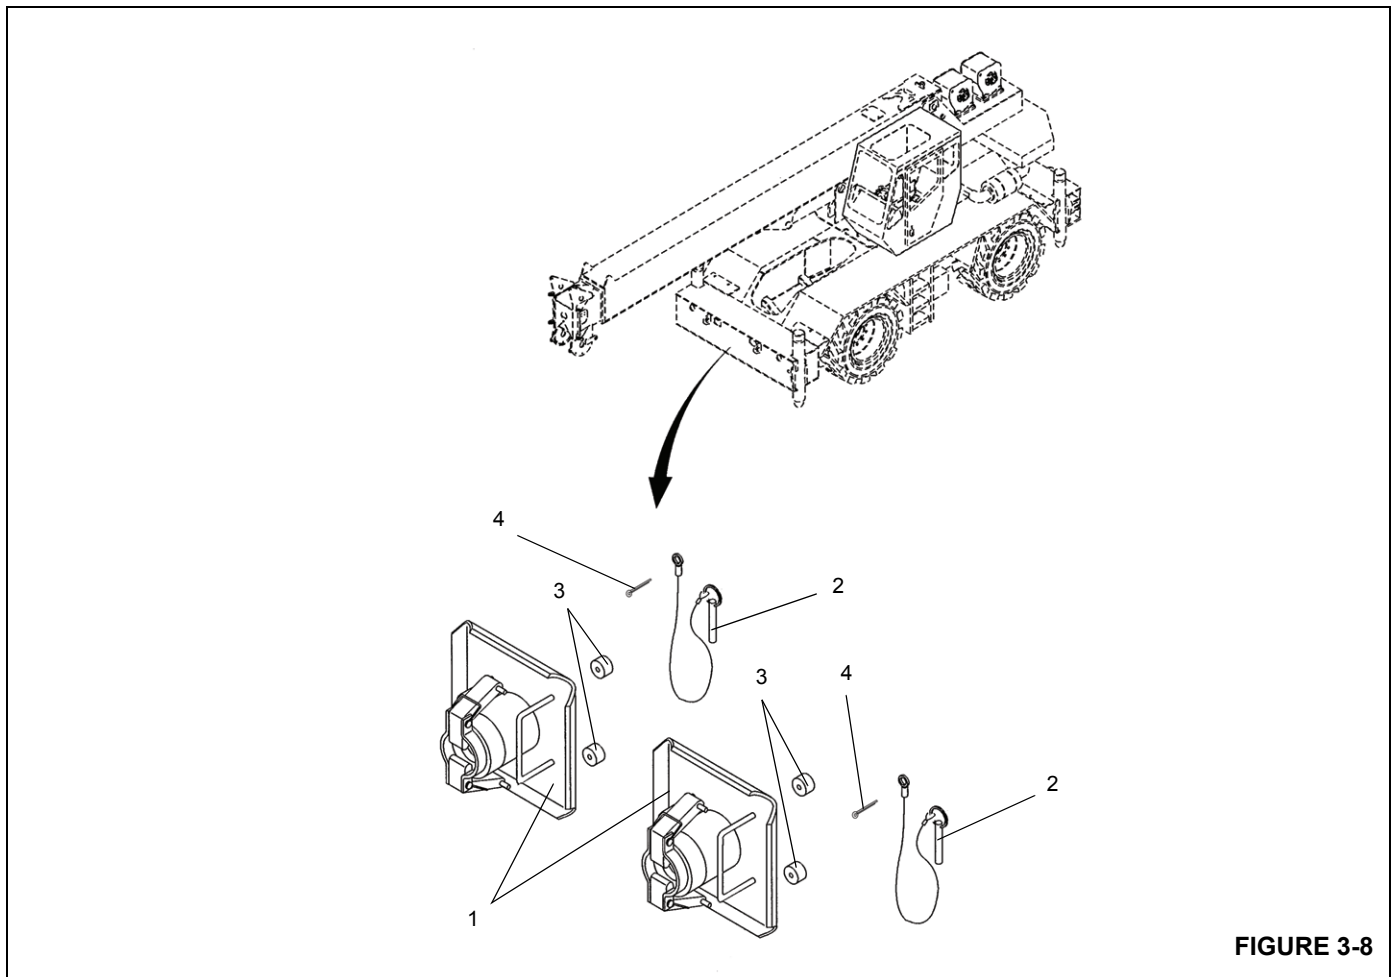

FIGURE 3-8
- After all outriggers have been fully retracted, stow the outrigger floats(Figure 3-8).